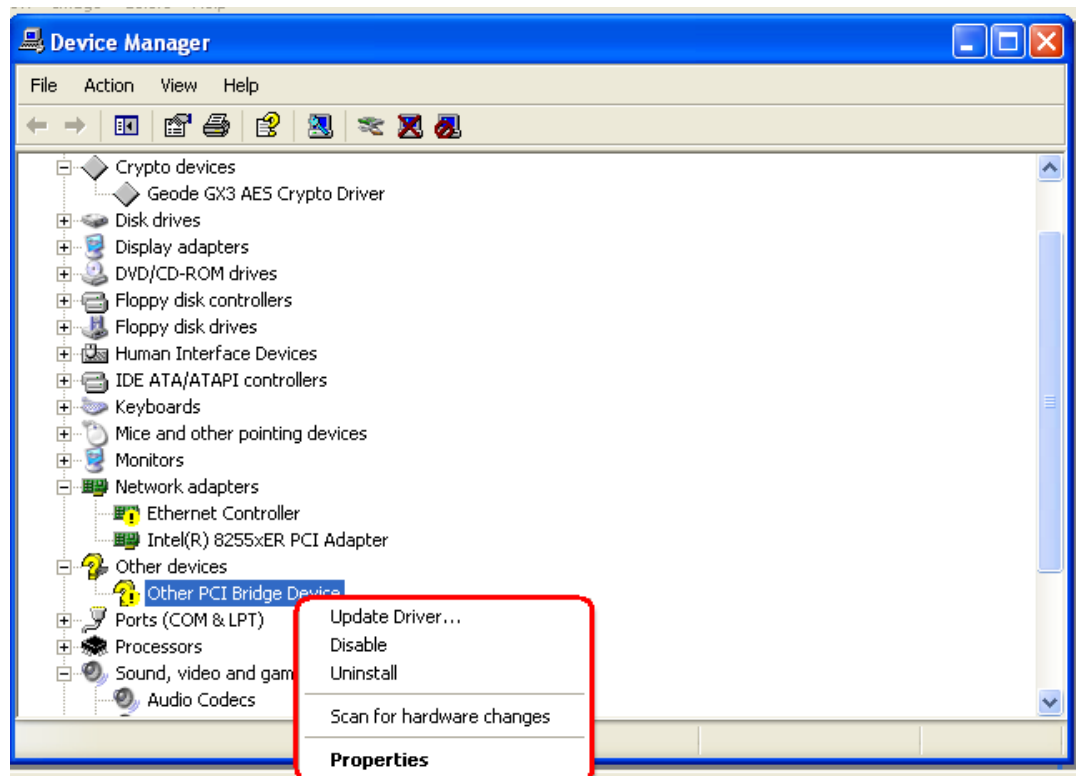

Figure 7-43: Other PCI Bridge Device Controller Driver Selection
Step 3: The small window in Figure 7-43 appears.
Step 4: Select the **UPDATE DRIVER** option in the small window shown in Figure 7-43.